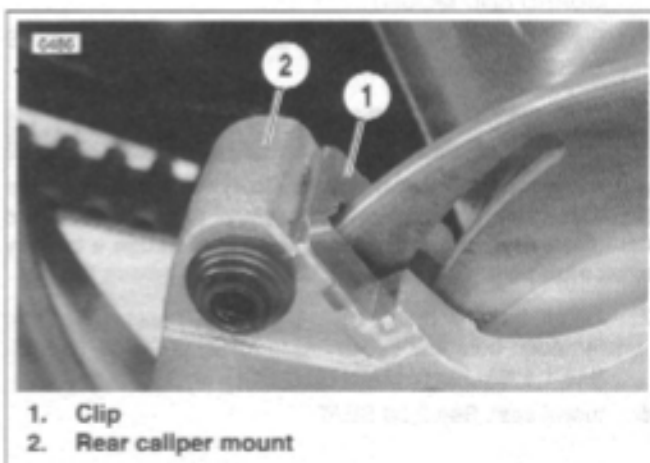

Figure 2-52. Caliper Mount Clip
1. See Figure 2-52. Install caliper mount clip (1) if removed.